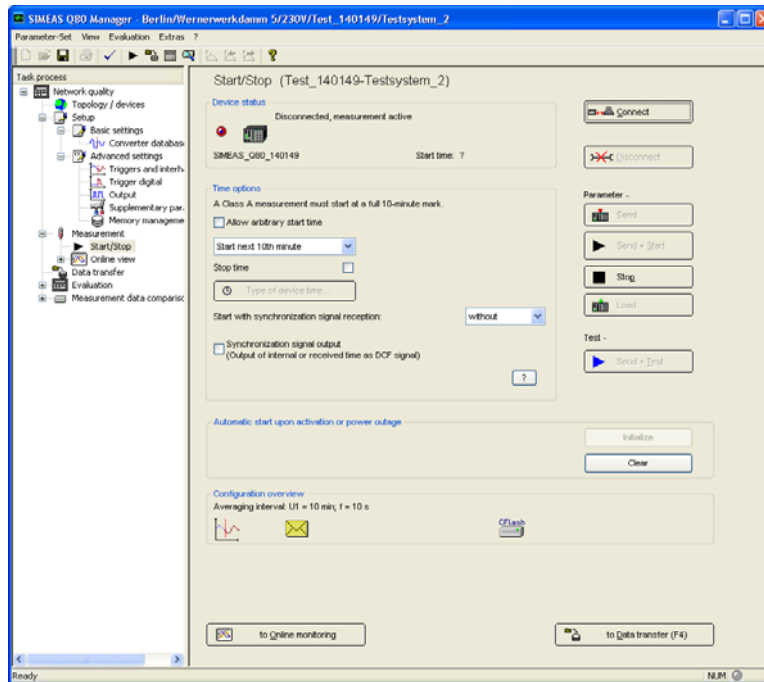

Figure 16: Start / Stop
- Click the button “Send” (See Figure 16) and wait about 20 minutes. During this time the devices are not measuring since there are time leaps. If you have several devices all of them shall be adjusted first.
- Click on the button “Initialize” (See Figure 16) to activate an automatic restart after power outage.
- Click the “Send + Start” (See Figure 16) button to start the measurement.